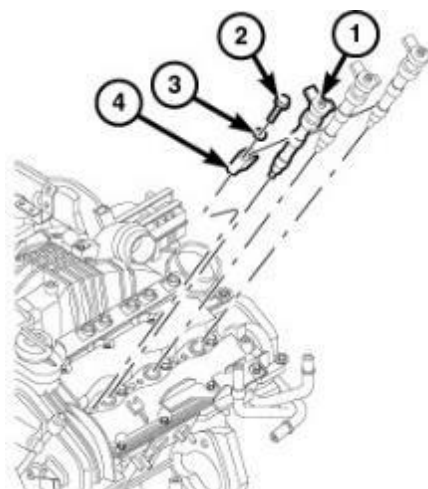

Figure 34 – Fuel Injector Removal
42. Remove the fuel injector hold-down bolt (2), washer (3), and retaining claw (4) (Figure 34).
43. Using your hand, pull fuel injector (1) straight up from cylinder head for removal. Discard lower sealing washer and injector (Figure 34).
55. Install the fuel injector (1), tensioning claws (4), washer (3) and bolt (2). Tighten the bolt (2) to 33 N·m (24 ft. lbs.) (Figure 34).